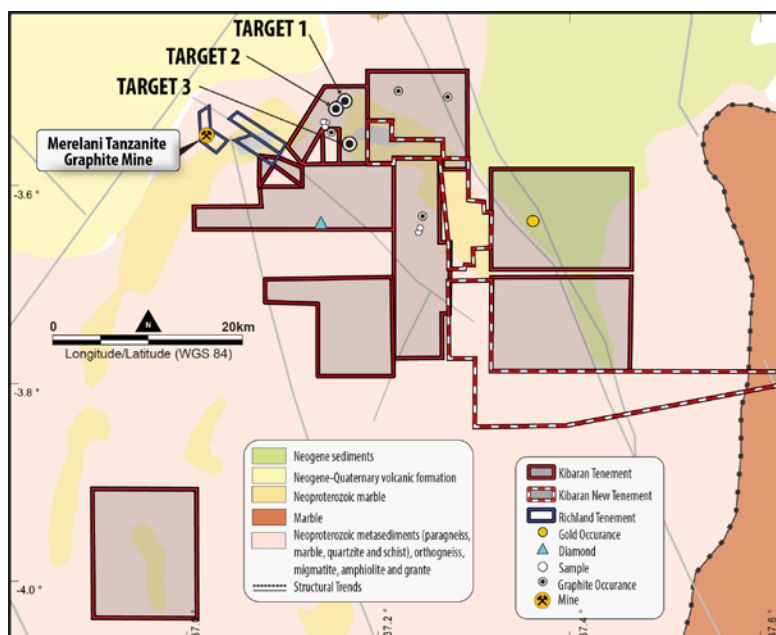

Figure 1 Location Plan for Merelani Graphite Project
The programme consisting of 22 Reverse Circulation (RC) and 2 Diamond Drilling (HQ3) has been completed. Drilling targeted three prospects that were previously identified from Kibaran’s regional geological interpretation (refer figure 1). Extensive Graphite mineralisation has been encountered over a total strike length in excess of 2 kilometres and mineralisation appears consistent with mineralisation that occurs at the adjacent Block C graphite deposit which, when in production in the mid-1990s, produced commercial quantities of extremely high grade, large flake graphite. Assay results are expected shortly and metallurgical testwork is underway.